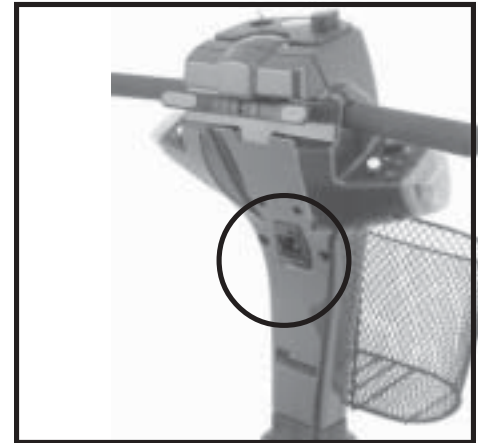

Figure 10. Tiller Adjustment Lever
1. Lift the tiller adjustment lever. See figure 10.